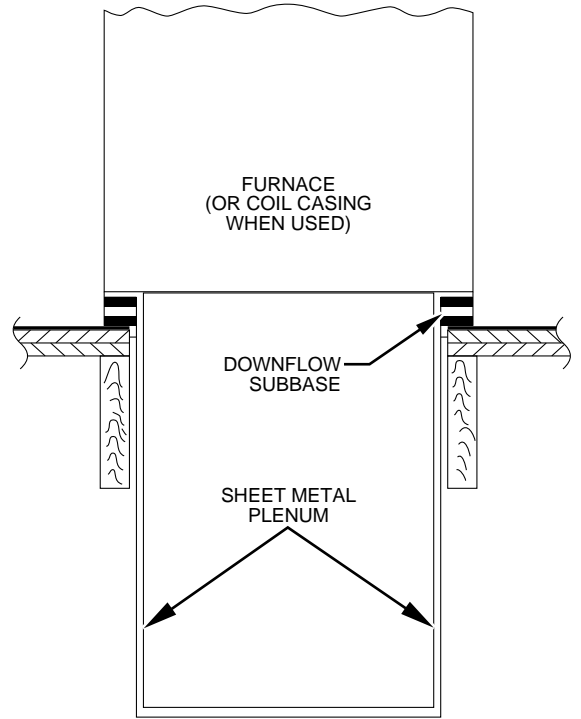

Fig. 6—Furnace, Plenum, and Subbase Installed on a Combustible Floor
2. When completed, downflow subbase, plenum, and furnace (or coil casing when used) should be installed as shown in Fig. 6.